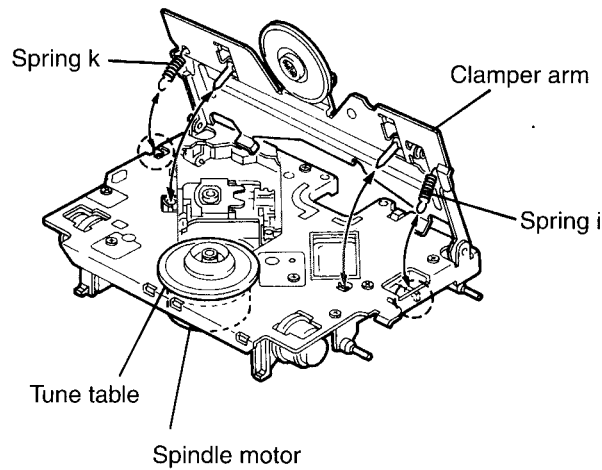

Fig.14
1. After turning back the CD mechanism to initial position, remove the two sparrings k and i on both the right and left sides of the clumper arm (See Fig. 14 and Fig. 15).